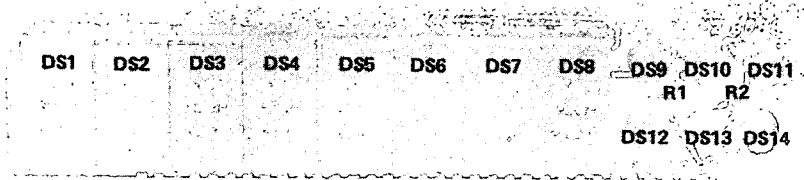

Figure 8-6. 5300B Parts Locations with Standard Time Base
1. Remove capacitors A1C7, A1C8, A1C10, A1C11, A1C12; resistors A1R9, A1R10, A1R11, A1R12, A1R22, A1R23, A1R24, A1R26; transistors A1Q10, A1Q11; crystal A1Y1; and integrated circuit A1U4. See Figure 8-6 for the location of these parts.